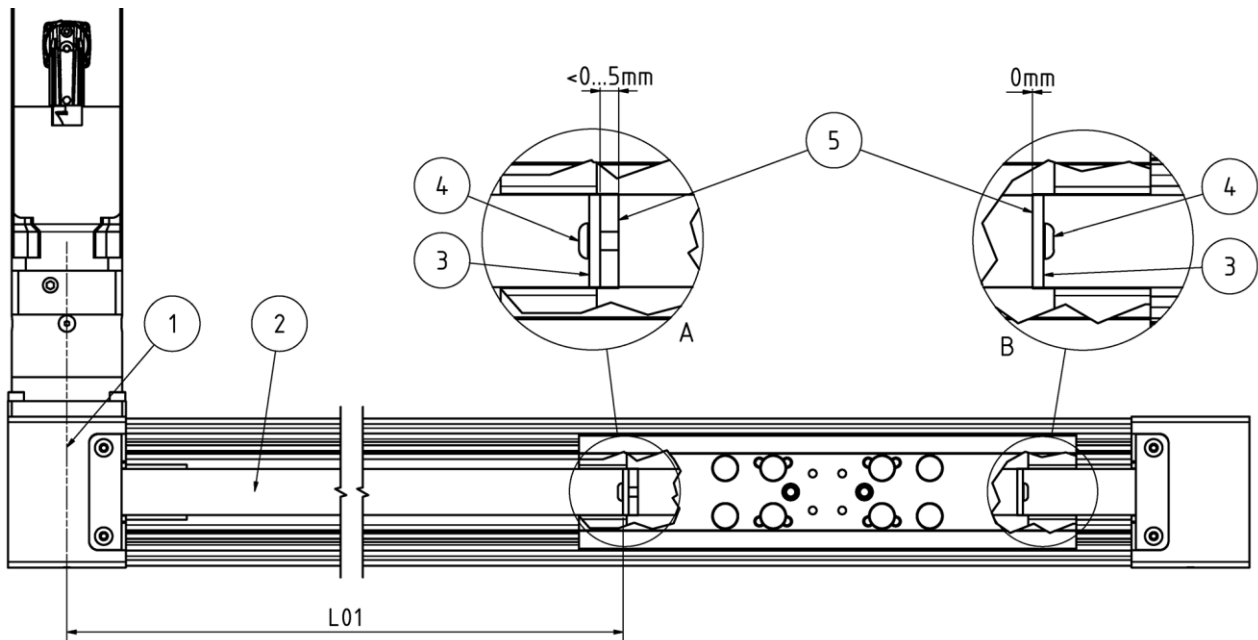

Figure 14: Check and adjust toothed belt tension
- ◆ Measure the free belt length (Figure 14, L01) between the middle level of the pulley (Figure 14, Pos. 1) and the belt tensioning element (Figure 14, Pos 3).
- ◆ Enter the measure belt length (Figure 14, L01) as well as the belt weight (Table 14) in the belt tension gauge.
- ◆ Depending on toothed belt tensions, carefully screw-in resp. screw-out the tension screw in the carriage (Figure 14, Pos 4).
One of the clamping screws is turned to the stop at the factory (Figure 14, detail view B). This is indicated by the fact that this clamping screw is screwed in deeper and cannot be screwed in any further. To increase the toothed belt tension, the other tensioning screw (Figure 14, detail view A) must be screwed in. To reduce toothed belt tension, both tensioning screws can be released. The belt tensioning elements (Figure 14, Pos. 3) must not protrude more than 5 mm on both sides, otherwise the steel belt deflections cannot be fitted.
- ◆ If both tensioning screws are screwed in at the stop (as shown in Figure 14, detail view B) and the required toothed belt tension has not yet been achieved, the toothed belt (Figure 14, Pos 2) must be shortened by one tooth.
- ◆ Loosen one of the tension screws completely (see Figure 14, Pos. 4).
- ◆ Carefully pull the toothed belt with the belt tensioning element (Figure 14, Pos. 3) out of the carriage (depending on the design, the belt tensioning element is one-piece or two-piece).
- ◆ Insert again the boothed belt (Figure 14, Pos. 2) with the belt tensioning element (Figure 14, Pos. 3) into the carriage.
- ◆ Screw-in tensioning screw (Figure 14, Pos. 4) until the toothed belt tightens.